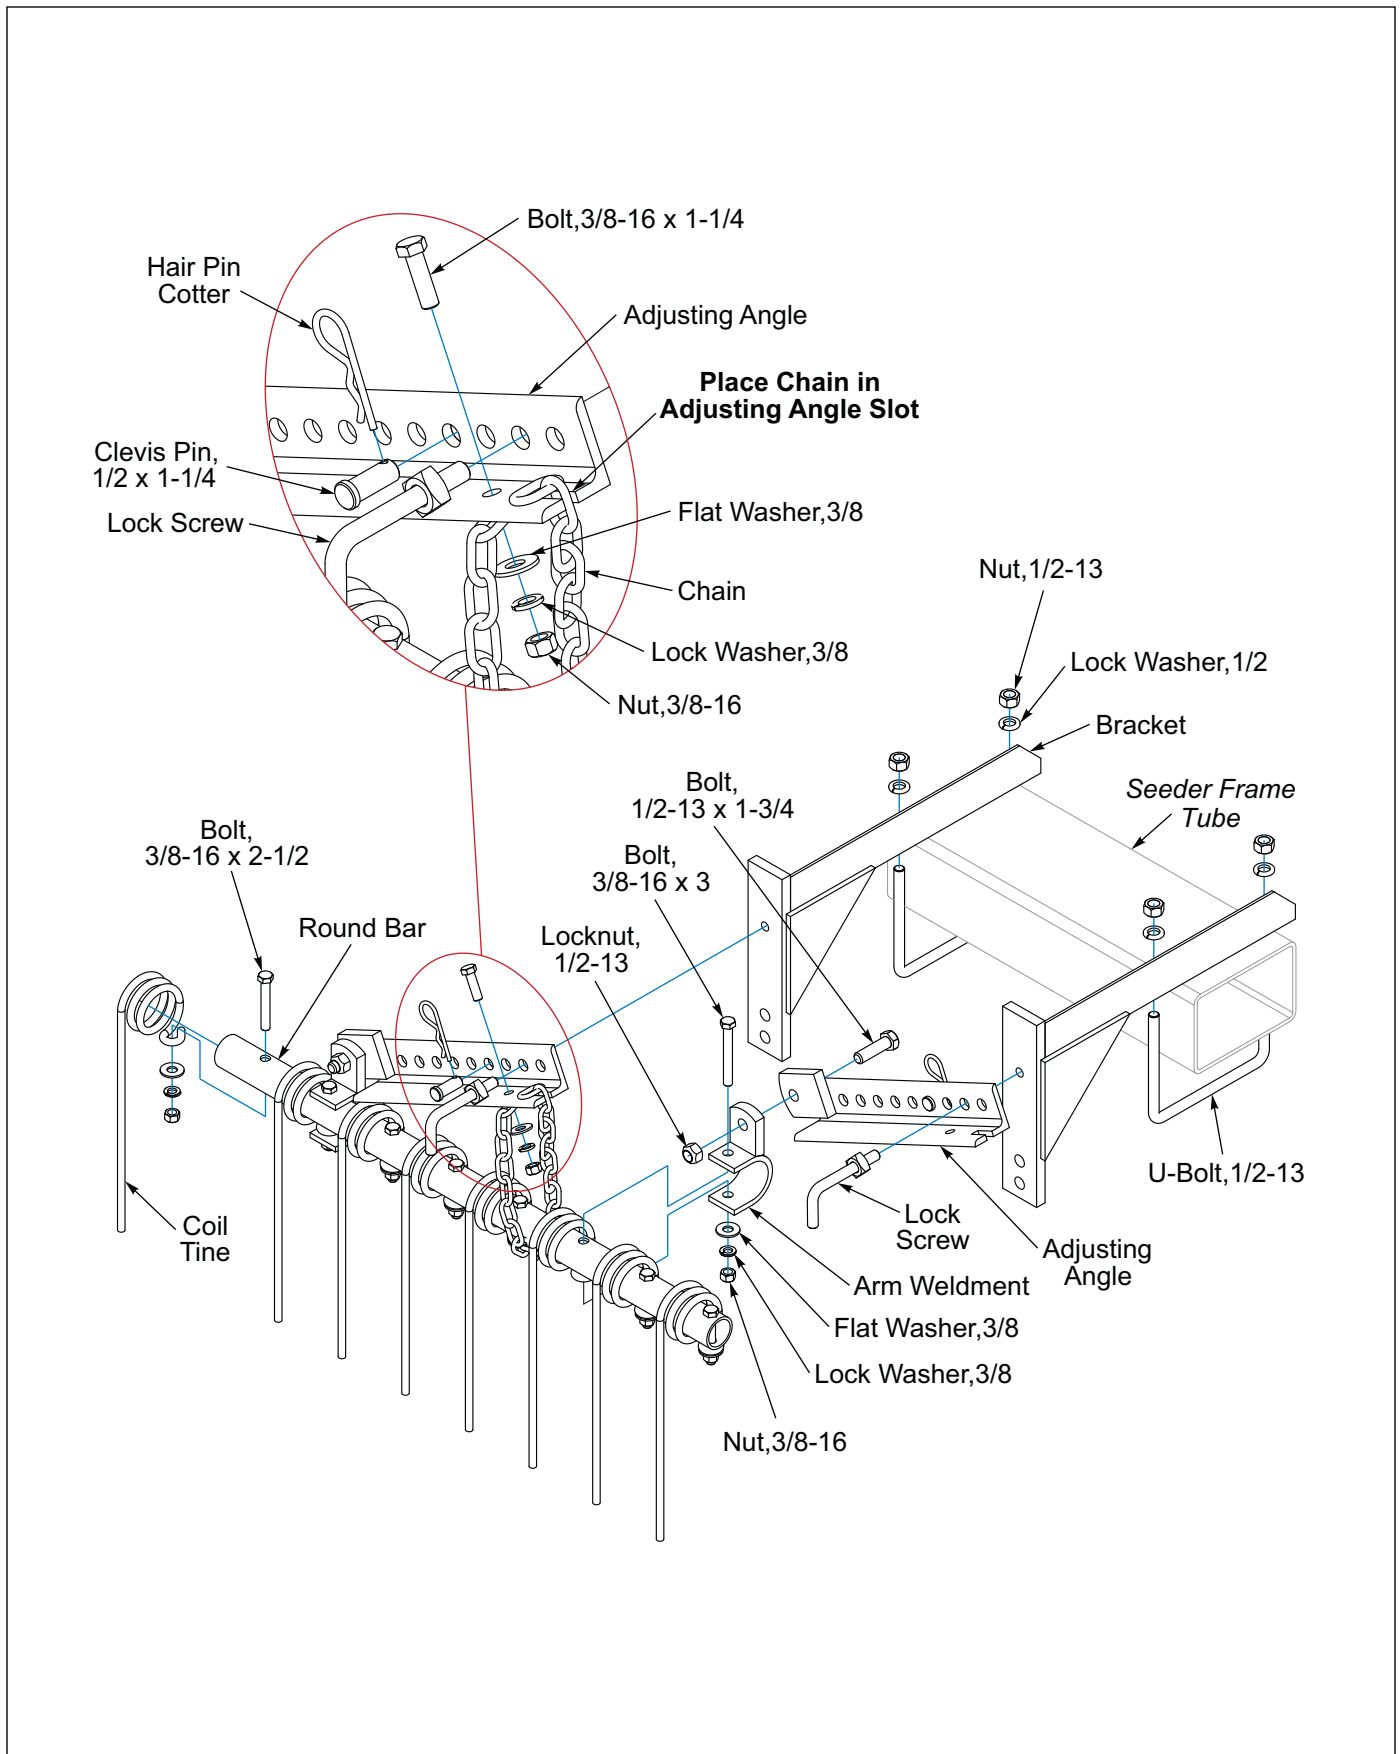

Figure 2-32: Coil Tine Track Remover - Optional
1. Slide the Coil Tines onto the Round Bar so that the straight leg is frontward. **See Figure 2-32.**